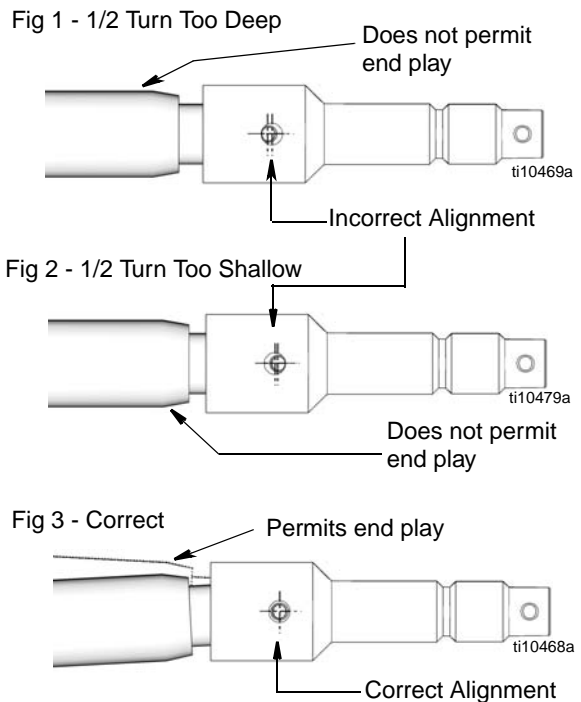

FIG. 3
- adjust hole alignment by 1/2 turn in the direction that aligns the thru holes as close as possible, axis-to-axis (FIG. 3). Improper alignment take the self-aligning feature out of the design, which could result in damage to the pump.
1. Slide piston seal (54) on piston/priming rod (58) assembly.
2. Screw priming rod (58) assembly onto connecting rod (57). Align the thru holes as close as possible, axis-to-axis (FIG. 3). See *endplay* Note included in Step 10, Pump Disassembly instructions (page 8) for additional assembly instructions.
4. Replace the gasket seal (60) on the pump cylinder (59). Screw the pump cylinder onto the extension tube (64).
5. Slide the intake seal (62) onto the priming rod (58) flat side down.
6. Replace the o-ring (61) on the seal retainer (63). Slide the seal retainer over the priming rod (58) and screw into the pump cylinder. Using the seal retainer torque the entire cylinder assembly to 44-55 ft-lbs (61-75 N.m).
7. Screw the shovel (66) on the priming rod (58). Screw the shovel tube (67) on the seal retainer (63).